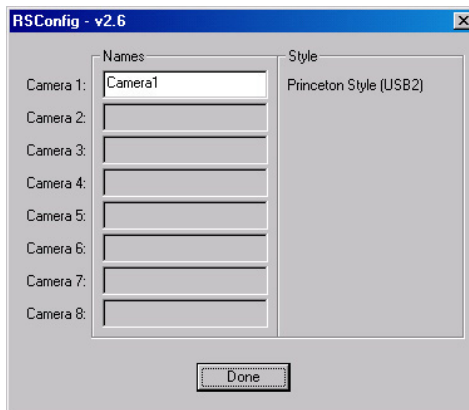

Figure 12. RSConfig dialog
4. When the RSConfig dialog (Figure 12) appears, you can change the camera name to one that is more specific or you can keep the default name "Camera1". When you have finished, click on the **Done** button.